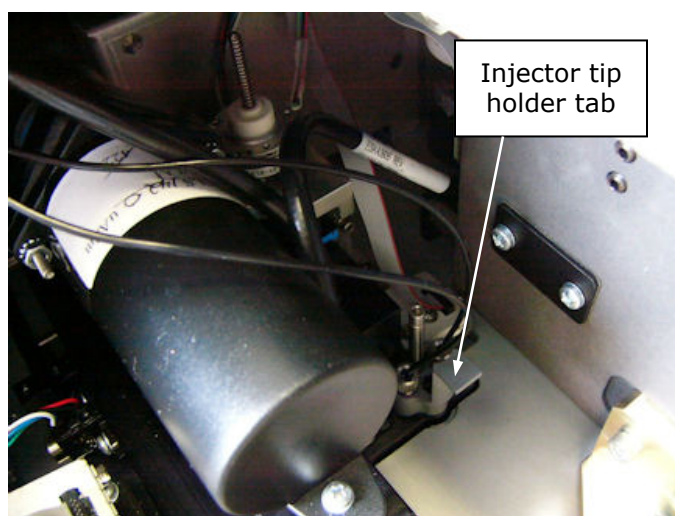

Figure 3: The injector tip holder in its socket
10. Open the door on the front of the reader, and, holding the injector tip holder by the tab, insert the injector tips into the appropriate holes inside the reader. See *Figure 3*.